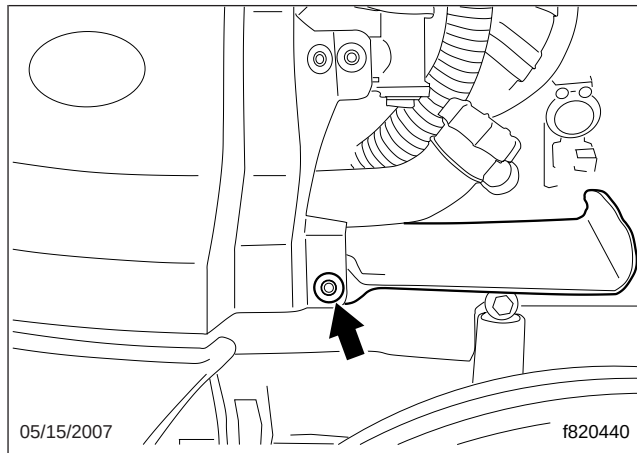

Fig. 1, Cowl Side Panel Torx Screw and Washer
3. Remove the Torx screw and the washer that attach the cowl side panel to the cab-mounted splash shield; see Fig. 1.